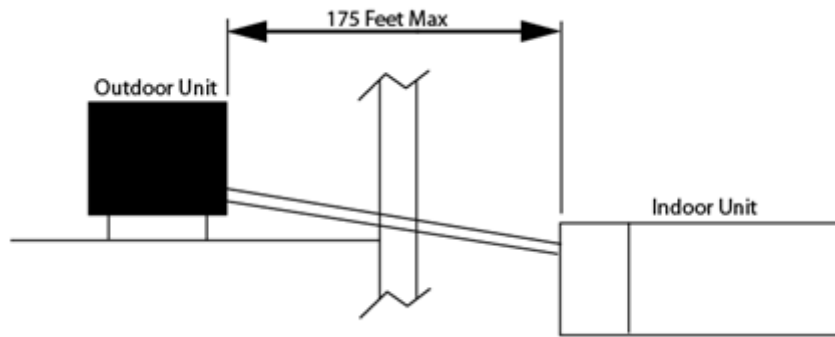

Figure 1. Air Conditioner or Heat Pump – Horizontal Run
- 175 feet maximum equivalent line length. See Figure 1.